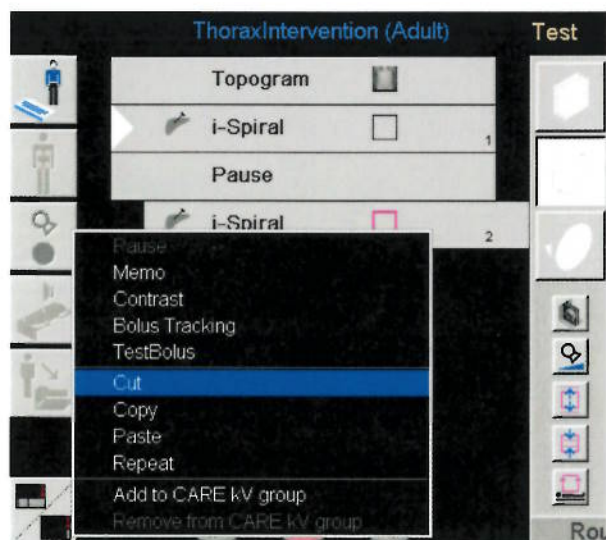

Fig. 1: Example of how issue 4 may occur.
- 4.) The systems may sporadically crash during an interventional workflow using the cut functionality. Details: This issue can happen when the following conditions are fulfilled. An Intervention examination is already started and an i-mode (i-spiral, i-sequence, i-fluoro) is loaded. In this situation the chronicle context menu option <Cut> will lead to a software crash. For details see Fig. 1 below.